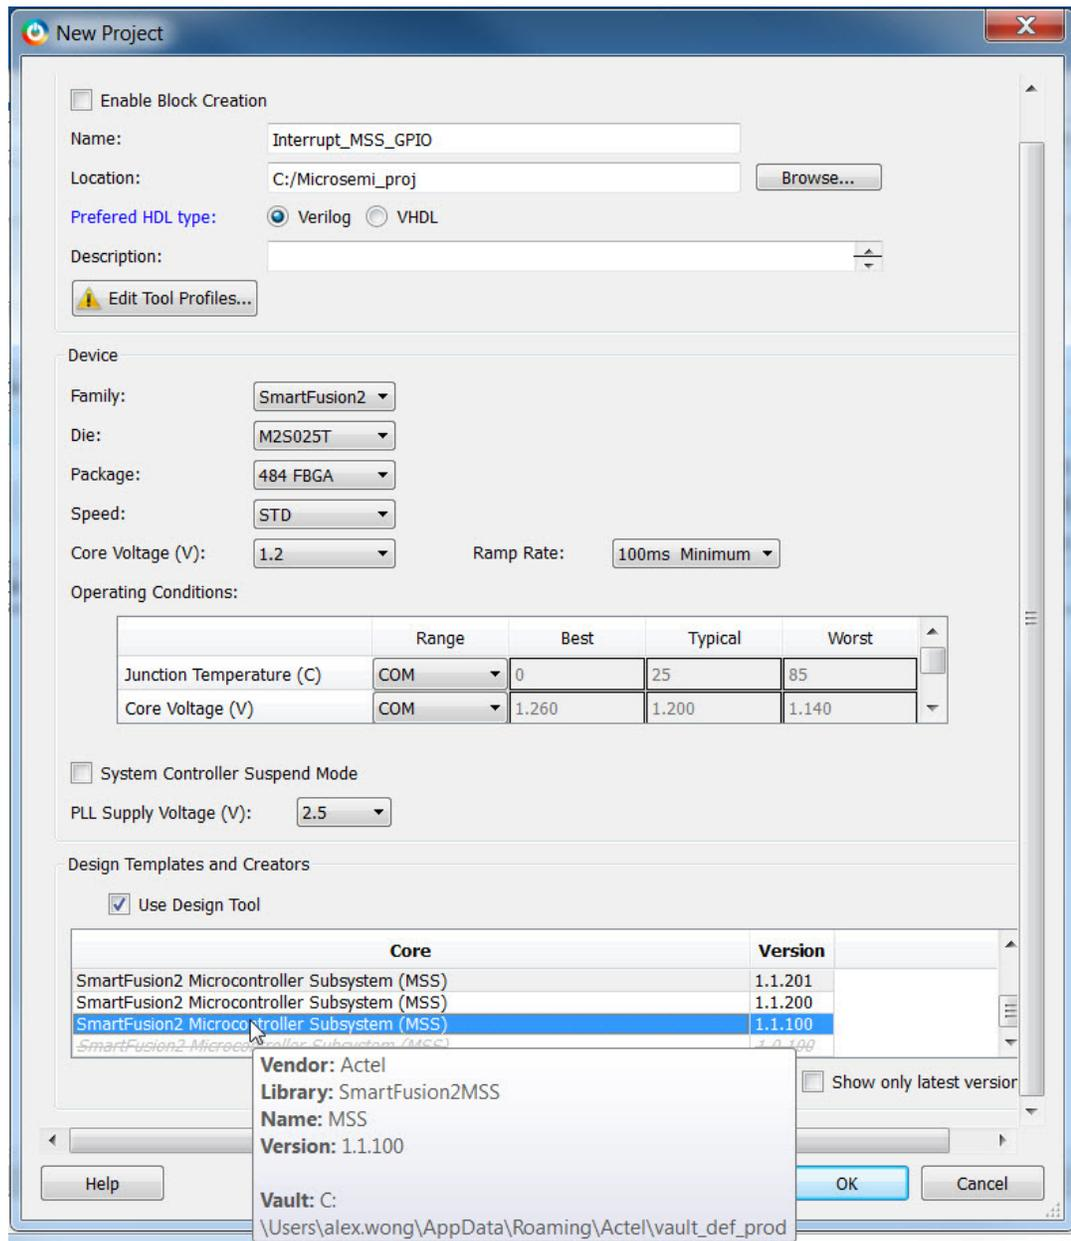

Figure 1-2 • Liberio SoC New Project Dialog Box
- From the **Project** menu, choose **New Project**. The New Project dialog box appears (Figure 1-2).
3. Enter the information as shown in Figure 1-2. If a value in the dialog box is not specified below you can use the default.